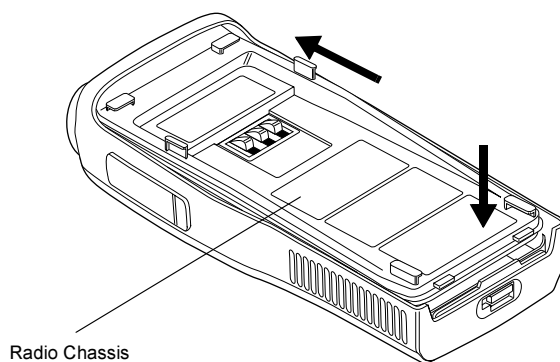

Figure 2-13 Fastening the Chassis
3. Push the chassis assembly completely into the top of the front cover (Figure 2-13) until it settles in place.